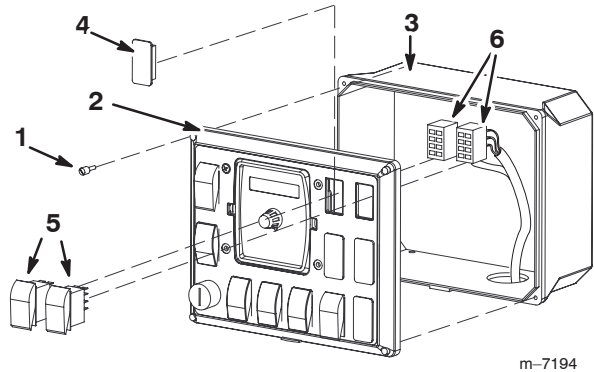

Figure 9
- 1. Loosen the 4 screws securing the front panel to the control box (Fig. 9).
- 2. Remove the front panel expose the inside of the control box (Fig. 9).
3. Lift and remove the 2 plugs from the spray control panel on the vehicle and install the 2 rocker switches provided in their place (Fig. 9).